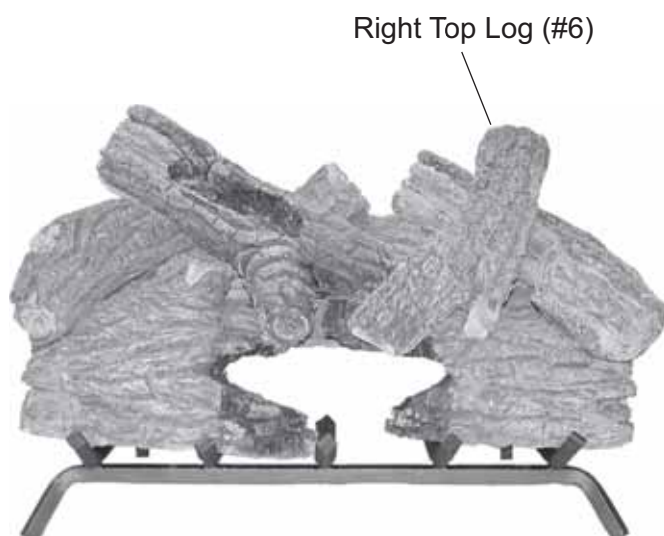

Figure 25 - Installing Right Top Log (#6)
8. Install right top log #6 as shown. *See Figure 25.*